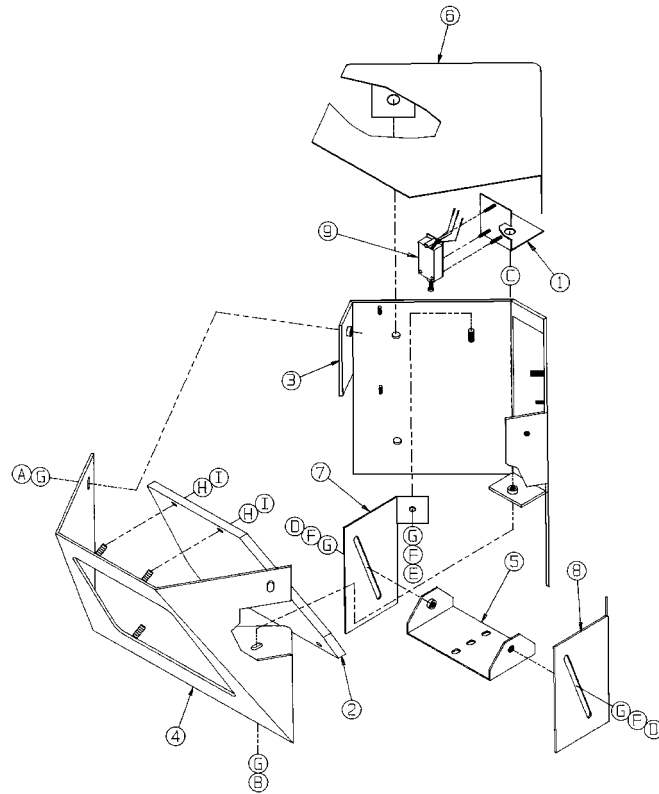

Figure 5. HS1500 Enclosure Exploded Assembly Diagram
1. Remove the cover (Figure 5, item 4).